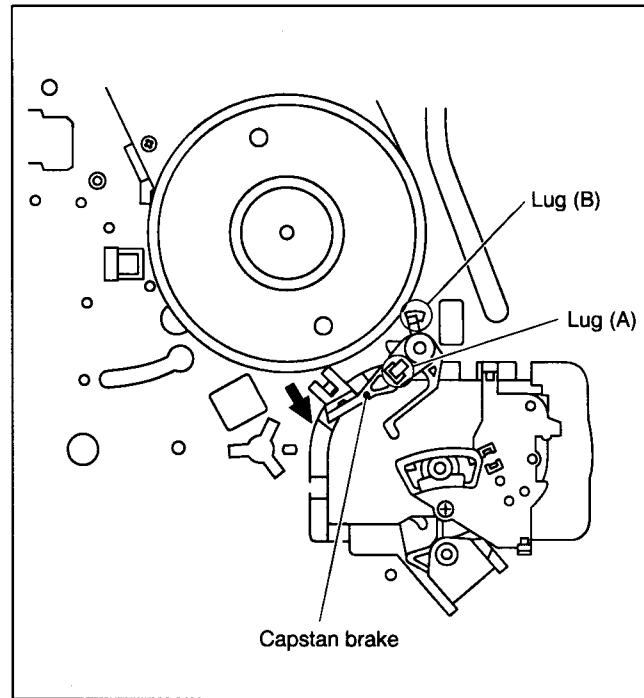

Fig. 2-2-30
- (1) Move lug (A) of the capstan brake in the arrow-indicated direction so that it comes into alignment with the notch of the main deck. (See Fig. 2-2-30)
- (2) Remove lug (B) of the capstan brake from the main deck and remove the capstan brake.